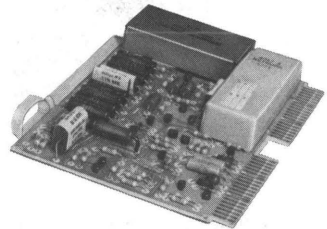

Fig. 16—119A Interconnecting Unit
**2.16 119A Interconnecting Unit**—4-3/4 inches wide, 2 inches deep, and 7 inches long. Provides a 2-wire connection between customer-provided terminal equipment and Bell System metallic voice-grade private line facilities. Mounts on any wall or flat surface. (See Fig. 16.)